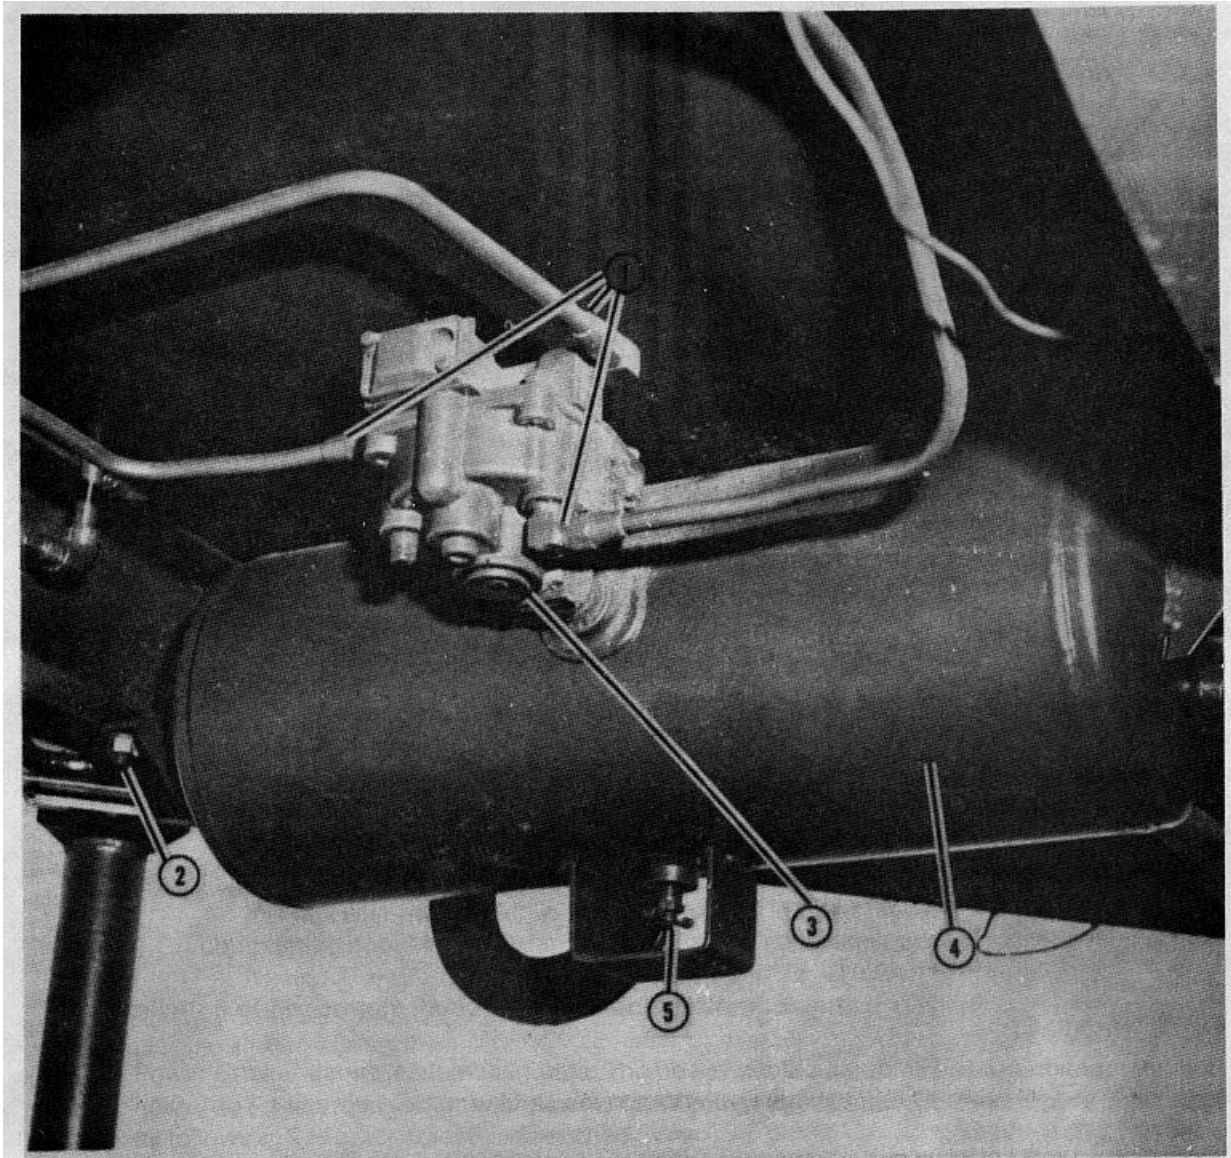

Figure 53. AIR TANK & RELAY VALVE MOUNTING
a. Removal. Refer to Figs. 53 & 54.